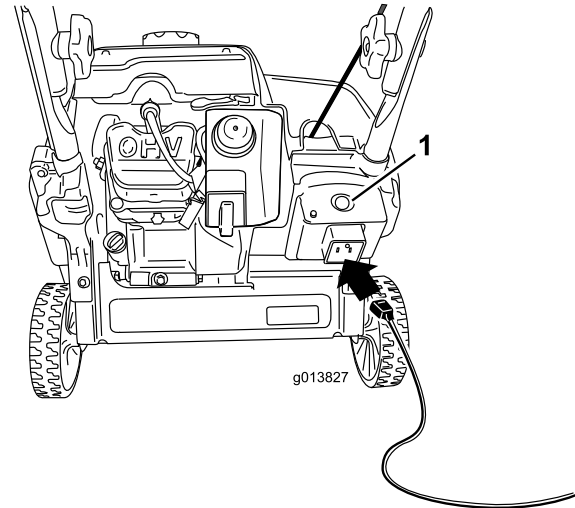
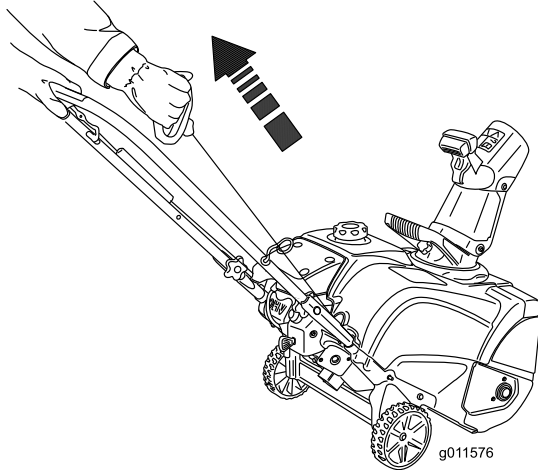

Figure 18
Figure 19
4. Connect an extension cord to a power source and the machine, and push the electric-start button (model 38473 only) (Figure 18), or pull the recoil start handle (Figure 19).